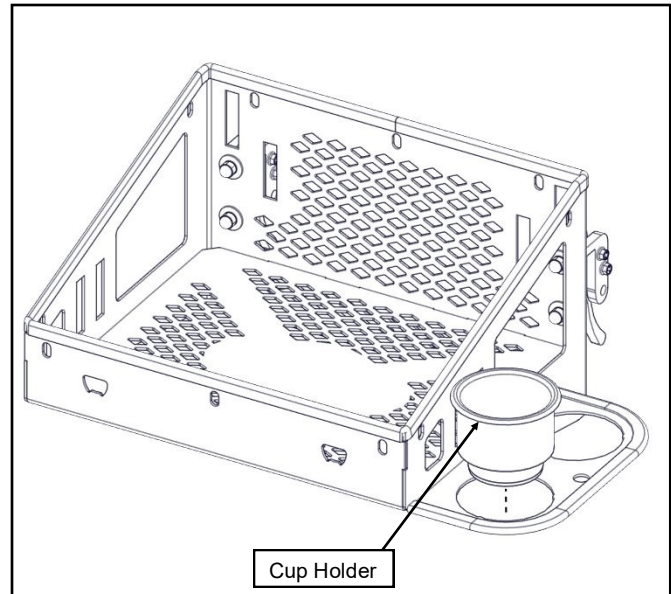

Fig. 2 (installing cup holders)
2. Insert the (2) supplied cup holders into the mounting holes. See fig. 2.